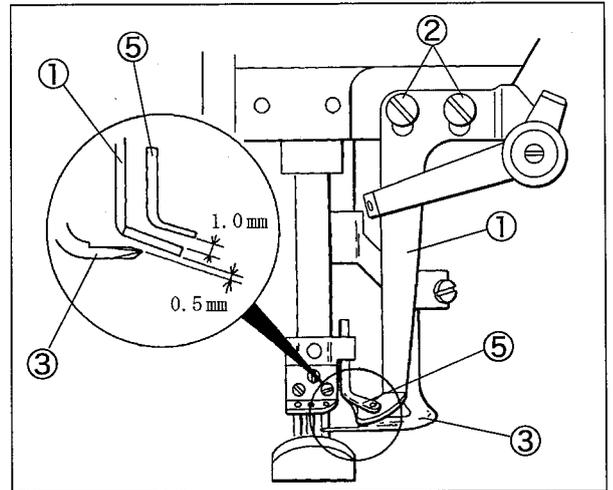

Fig. 6-8
- (1) Loosen the screws ② of the top cover thread guide ①. (Fig. 6-8)
- (2) Make the clearance between the top surface of the spreader ③ and the bottom of the top cover thread guide ① to 0.5 mm. (Fig. 6-8)
- (3) Let the center of the hook ④ come to the center of slot on the top cover thread guide ① when the spreader ③ is at the extreme right. Then, tighten the screws ② securely. (Fig. 6-8, 6-9)
- (2) Make the clearance between the top of the top cover thread guide ① and the top cover thread eyelet ⑤ to 1.0 mm when the needle bar is at the lowest point. (Fig. 6-8)